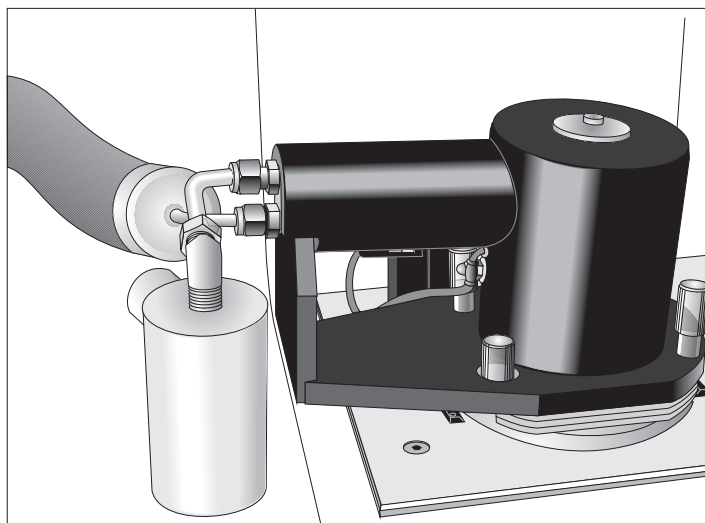

Figure 2.18
- c. Screw the accumulator onto the threaded part of the elbow fitting. You can position the opening to the accumulator as desired, it does not need to be tightly attached (see Figure 2.18).